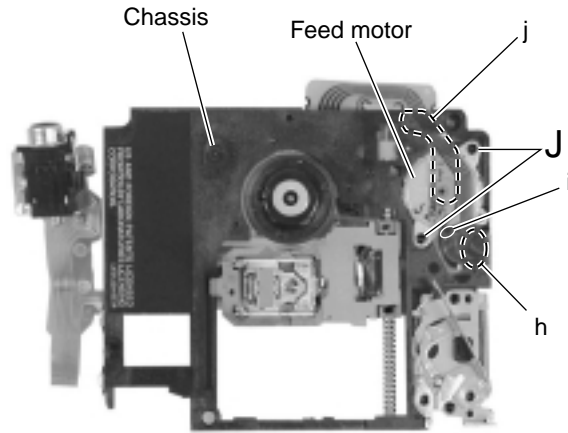

Fig.12
■ Removing the feed motor (See Fig.12)
■ Removing the switchi board assembly (See Fig.12)